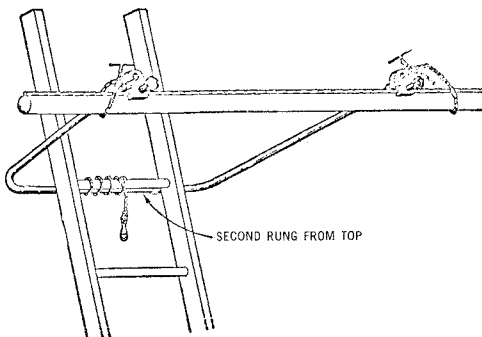

Fig. 21 — C Ladder Support in Use
**6.22** Descend and pull the foot of the ladder backward until the top of the ladder falls below the strand and cable. This may also be accomplished by lowering the ladder with the ladder rope. Push the foot of the ladder forward and adjust its length or raise the ladder with the ladder rope until the ladder assumes the position shown in Fig. 21 with the right side rail placed in the fitting on the support.
**6.23** Climb the ladder, detach the rope from the fifth rung, and use it to tie the ladder support member to the second rung from the top, as shown in Fig. 21.